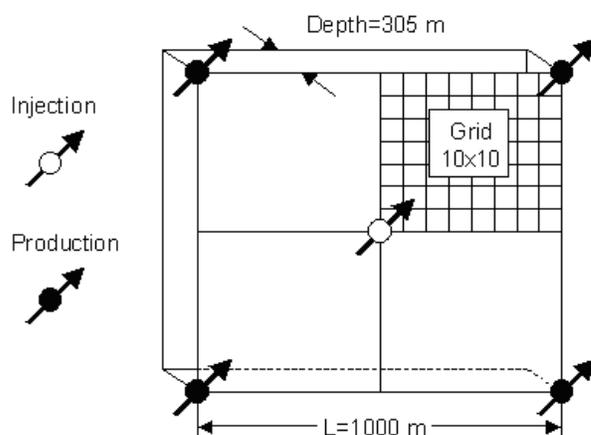

Figure 1: Diagram of reservoir for Five-Spot Injection
This example is *Problem 4 - Five Spot Geothermal Production and Injection (EOS1, EOS2)* described in the TOUGH2 User's Manual (1). It simulates a five-spot pattern of injection and production from a geothermal reservoir. Only one quarter of the reservoir is included, since the solution is symmetric, as shown in Figure 1. The mesh uses cells of uniform 50 m x 50 m size.